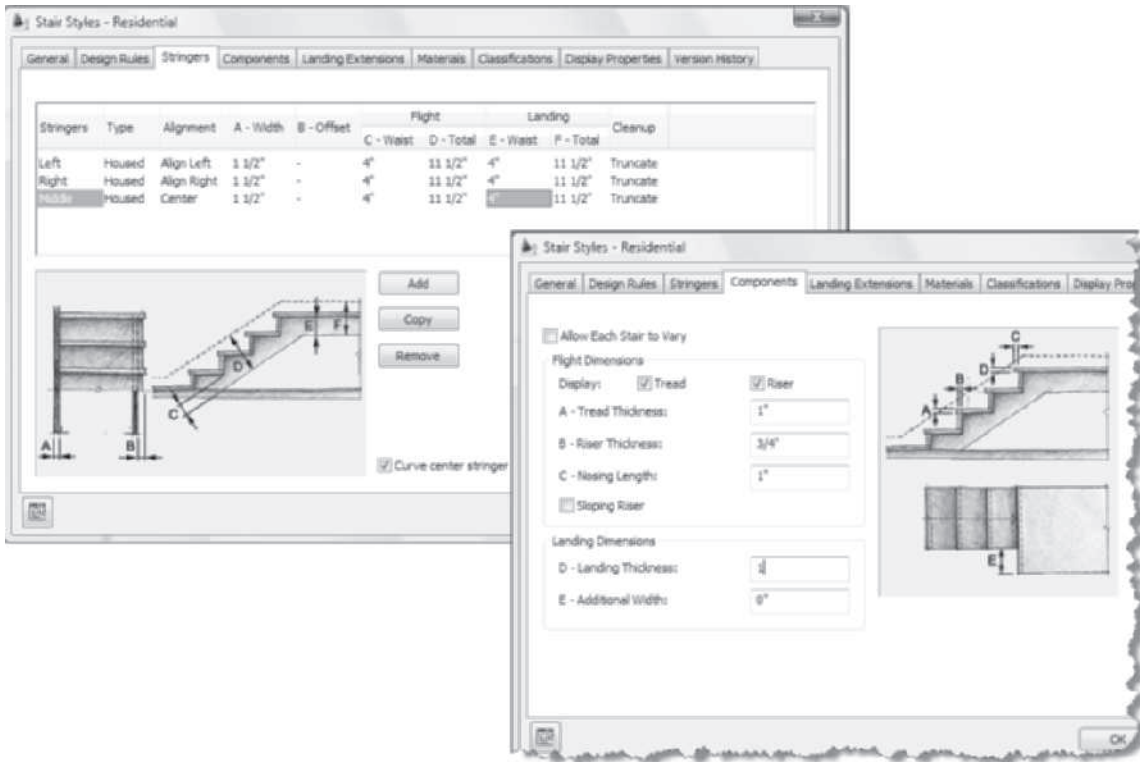

FIGURE 9.39 Components and Stringers tabs of the Stair Styles – Residential dialog box
6. Refer to Figure 9.39 and select the **Stringers** tab, then edit as follows: click the **Add** button, select the **Unnamed** stringer in the **Stringers** column, and overtype **Left** to name the new stringer. Click in the **Type** column and choose **Housed**. Click in the **Alignment** column of the new stringer and select **Align Left** from the drop-down list. Click the **Add** button, select the **Unnamed** stringer in the **Stringers** column, and overtype **Right** to name the new stringer. Click in the **Type** column and choose **Housed**. Click in the **Alignment** column of the new stringer and select **Align Right** from the drop-down list. Select the **Add** button, select the **Unnamed** stringer in the **Stringers** column and overtype **Middle** to name the new stringer. Click in the **Type** column and choose **Housed**. Click in the **Alignment** column of the new stringer and select **Center** from the drop-down list. Edit A-Width = **1 1/2" [38]**, C-Waist = **4" [100]**, and E-Waist = **4" [100]** for all stringers.
7. Refer to Figure 9.39 and select the **Components** tab, then edit as follows: verify that the **Allow Each Stair to Vary** checkbox is clear and that the **Display Tread** and **Riser** checkboxes are checked. Set A-Tread Thickness = **1" [25]**, B-Riser Thickness = **3/4" [19]**, and C-Nosing Length = **1" [25]**. Clear the **Sloping Riser** checkbox and set D-Landing Thickness = **1" [25]** and E-Additional Width = **0**.